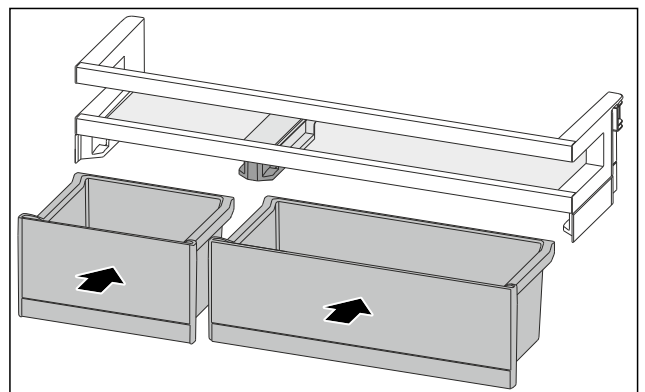

Fig. 123
- ▶ Insert the VarioBoxes in reverse order. (see Fig. 123)